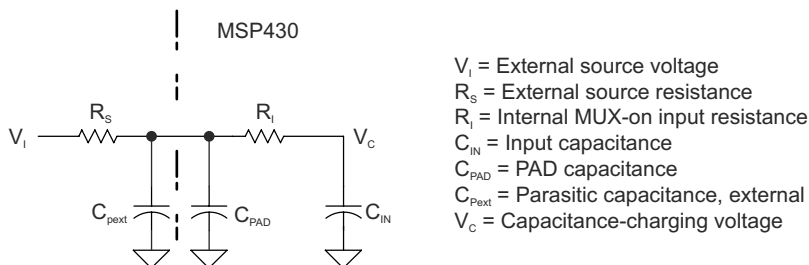

FIGURE 8-14. eCOMP Input Circuit
- (1) For the eCOMP C_{IN} model, see Figure 8-14.
(2) This is measured over the input offset.